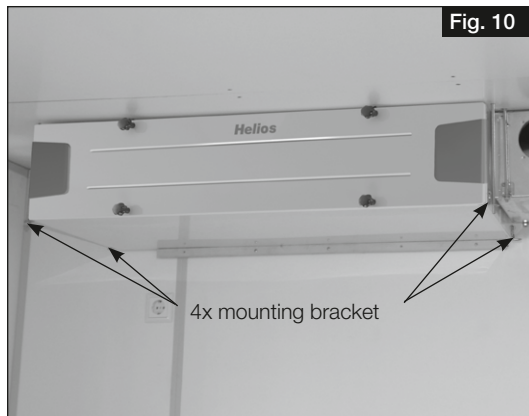
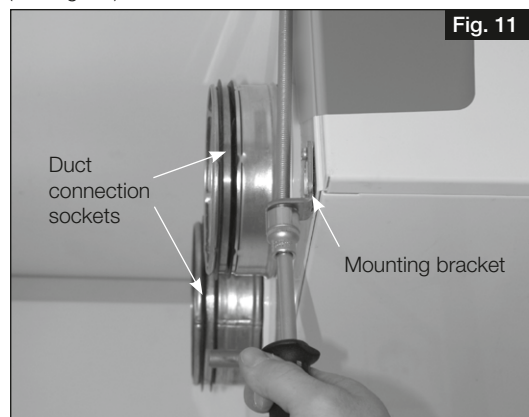

Fig. 10
Fig. 11
2. Attach mounting bracket with anti-vibration dampers (4x; included in delivery) to the lower side walls with metal screws (see Fig. 10 and Fig. 11).
3. Mount the unit to the ceiling with long M8 threaded rods (see Fig. 11).